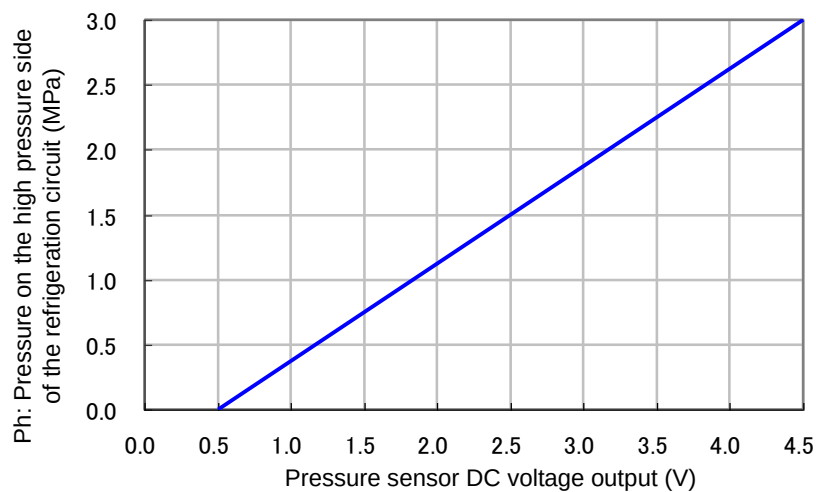

Fig. 3.3-10 Refrigerant circuit pressure sensor (for high pressure) analogue output
- (1) Check the "Ph: Refrigerant circuit pressure on the high pressure side" value in the "Check Monitor Menu".
- (2) Check voltage by contacting the probe of the tester directly to the connector external surface with the "CN4" connector of the main board being inserted.
- (3) Contact the positive probe to the pin number 11 and contact the negative probe to the pin number 10 of the "CN4" connector.
- (4) Check that the voltage between the pin number 11 and the pin number 10 is in the same relationship shown in Fig. 3.3-10. (Accuracy: $\pm 5\%$)
- (5) If the voltage is in the same relationship as the graph shows, it means that the main board is operating correctly.